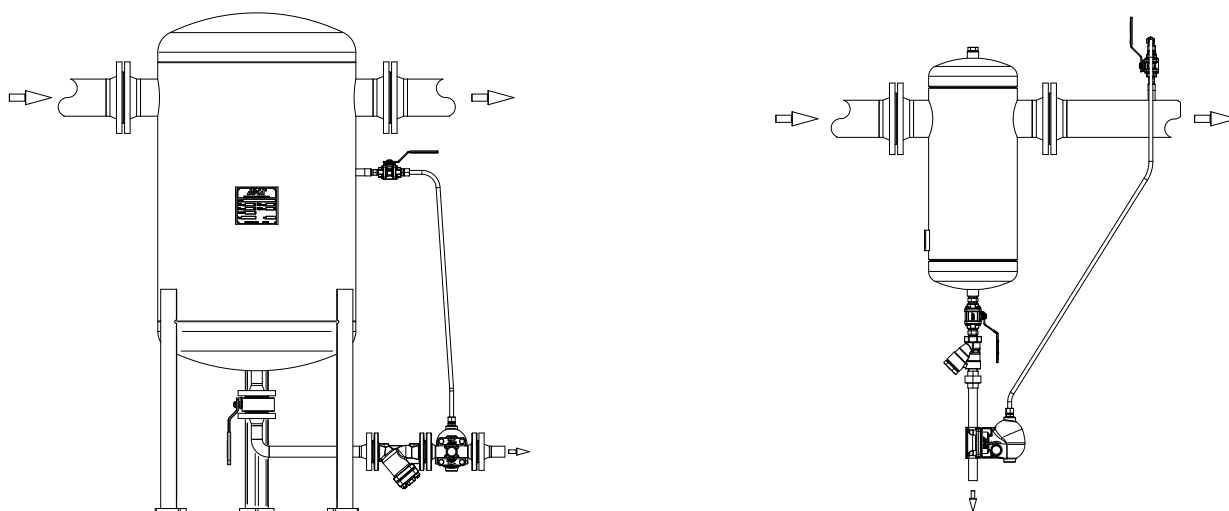

Fig. 2 - Balancing line arrangement examples.
- Referring to this Installation and Maintenance Instructions (IMI), Information Sheet (IS) and nameplate, check that the product is suitable for the intended installation: temperature, medium, pressure, etc. – see section 1.2 – Intended use.
- In some applications where loads are low (e.g. mains drainage), air/gas inside the float trap and inlet pipe can easily displace to make room for condensate to flow through and discharge. However, in case of higher load applications (e.g. aftercoolers), the air/gas inside the float trap may not be able to displace and thus a balance line is mandatory to avoid air/gas locking. See Fig. 2.